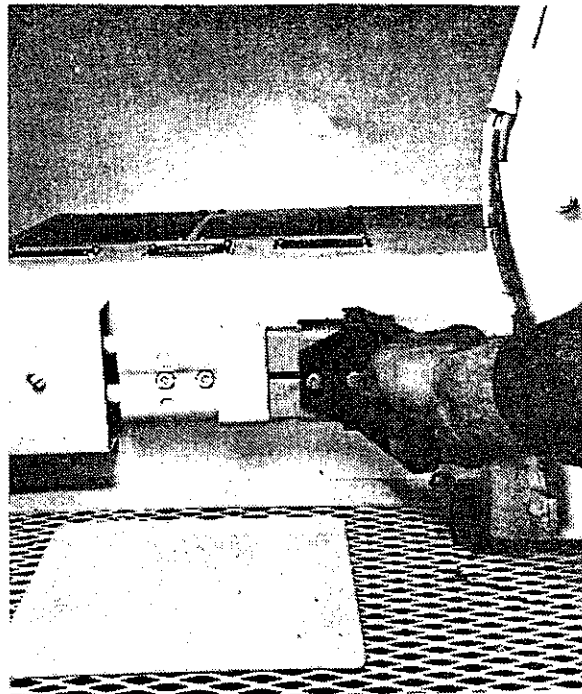

Figure 5-97
3. Disconnect the battery connector (Fig. 5-97).